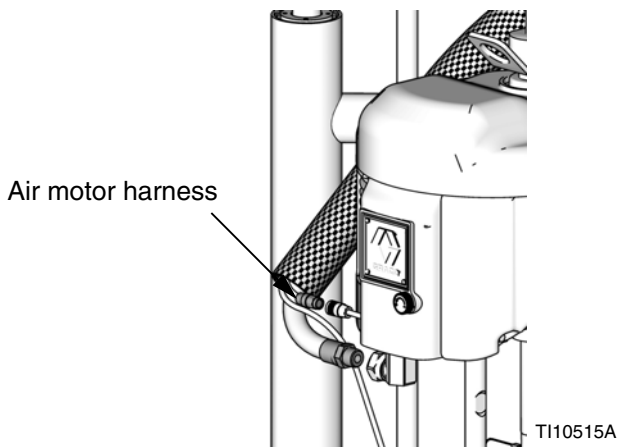
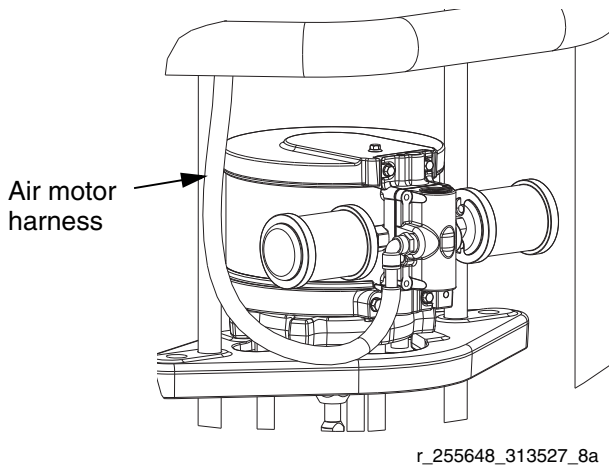
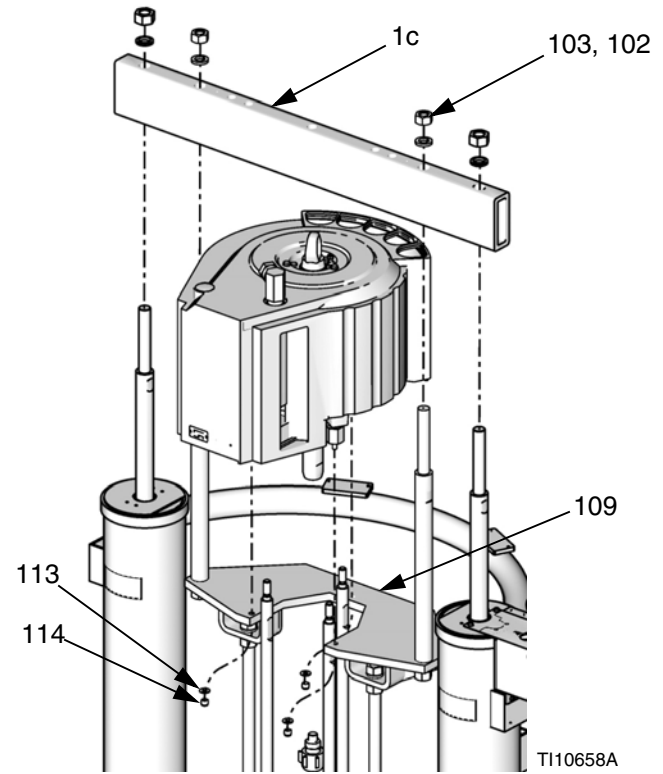

FIG. 22: NXT 2200-6500 Air Motor Harness
FIG. 23: NXT 200-1800 Air Motor Harness
FIG. 29: Xtreme XL Air Motors
3. Connect air hose to motor. If using a remote Data-Trak, connect electrical connections to the air motor. See FIG. 22 and FIG. 23 on page 26.
1. Using a capable hoist, lower air motor on the mounting plate (109). See FIG. 29.
2. Secure motor to mounting plate (109) with nuts (114) and washers (113).
3. Install cross bar (1c), nuts (103), and washers (102).
5. Connect air hose to motor. If using a remote Data-Trak, connect electrical connections to the air motor. See FIG. 22 on page 26.